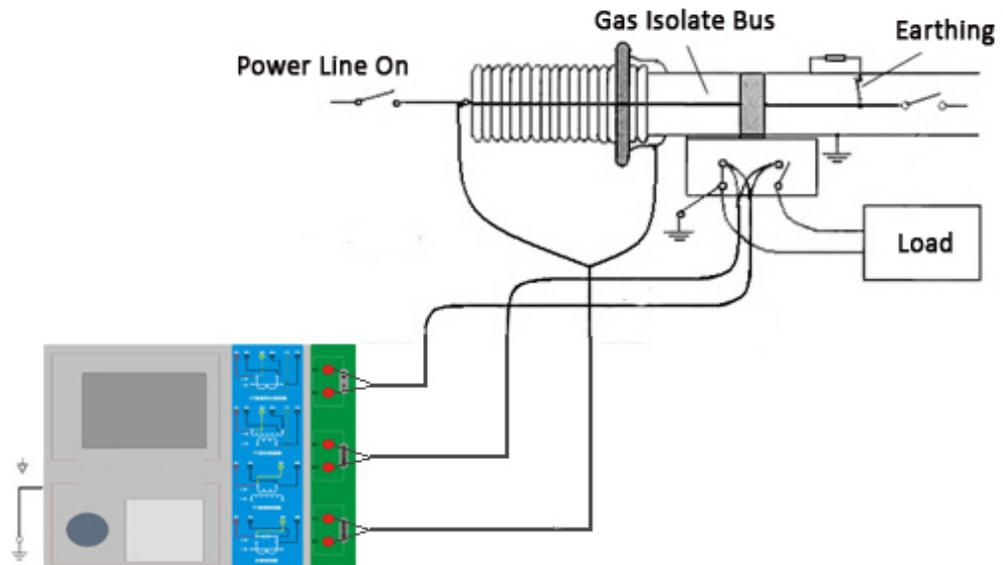

Figure D.4 TRANSFORMER TESTER on GIS (SF₆) switch on the test at the time of CT Connection
4. TRANSFORMER TESTER in the GIS (SF₆) switch on the wiring of the CT test mode as shown in Figure D.4. NOTE: Disconnect all connected with the bus switch, grounding switch closed.